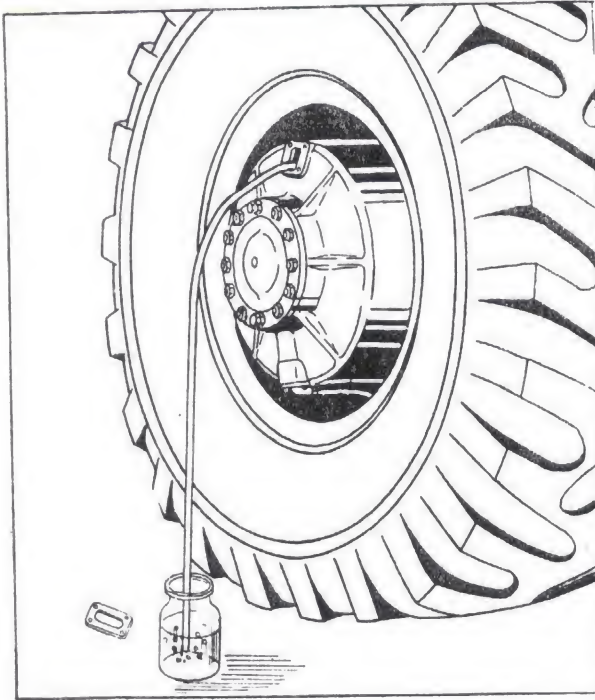

FIG. 52. BLEEDING AIR FROM BRAKE CONTROL HYDRAULIC SYSTEM
5. Immerse the open end of the hose into a glass vessel (having capacity of at least  $1/2 \ell$ ) containing brake fluid. The vessel must be half-full with the brake fluid (Fig. 52).